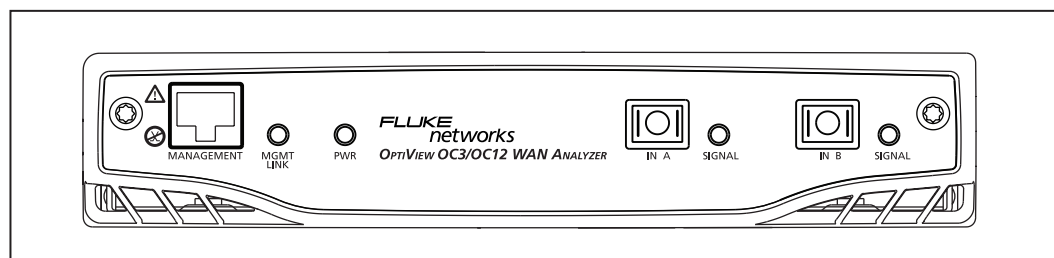

Figure 2. OptiView WAN Analyzer's Front Panel
The OptiView WAN Analyzer's front panel is shown in Figure 2. Following the figure are descriptions of the elements on this panel.
The management port (Figure 2) is the analyzer's remote control interface. This port, which is located on the analyzer's front panel, is an Ethernet RJ-45 connector that accepts 10BASE-T/100BASE-TX twisted-pair copper cable.
When the analyzer powers on, it performs a sequence of operations, which includes initializing the processor and memory. If a link is established on the management connection, the **MGMT LINK** LED on the front panel (Figure 2) lights solid green. If there is activity on the link, this LED flashes green. If there is a valid OC3 or OC12 signal on the receivers, the **SIGNAL** LEDs light solid green.
1. Using the supplied (or your own) CAT5 patch cable, connect one end to the **MANAGEMENT** port, which is located on the analyzer's front panel (Figure 2).